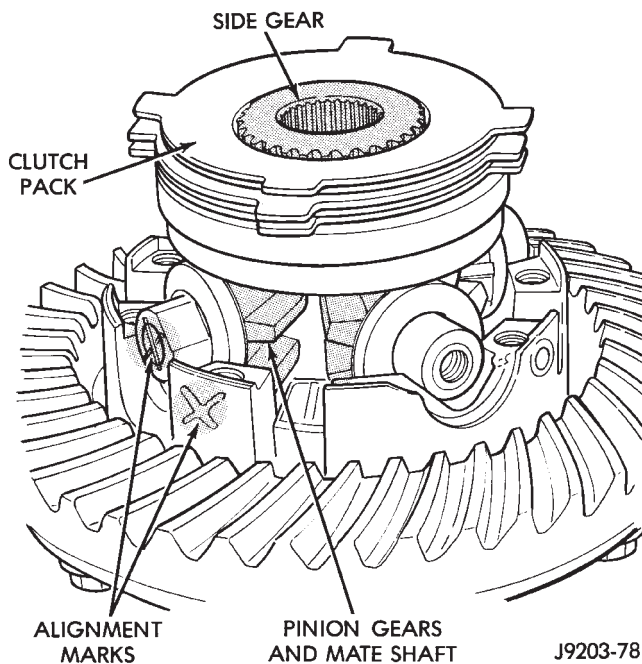

Fig. 44 Clutch Pack Installation
- (3) Install pinion mate shafts and pinion mate gears (Fig. 44). **Make sure shafts are correctly installed according to the alignment marks.**